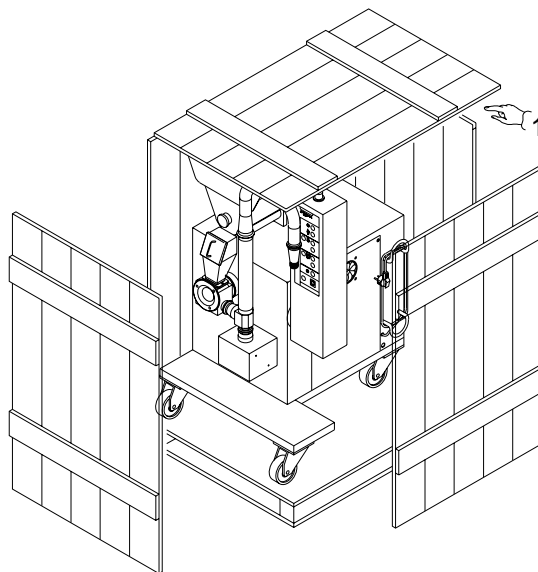

Fig. 4.1
- a. Unnail the upper lid (*Pos.1, Fig.4.1*) and remove it. Do the same with the side panels. Pay attention to the wooden spacer blocks located between the sides of the crate.
- b. Remove the spare parts box (*Pos.2, Fig.4.1*) and the other components from the crate.